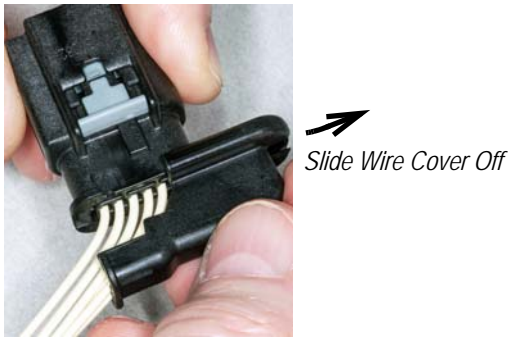

Figure 7
2. Grasp the closed end of the wire cover, and forcefully slide it straight away from the plug assembly. See Figure 7.